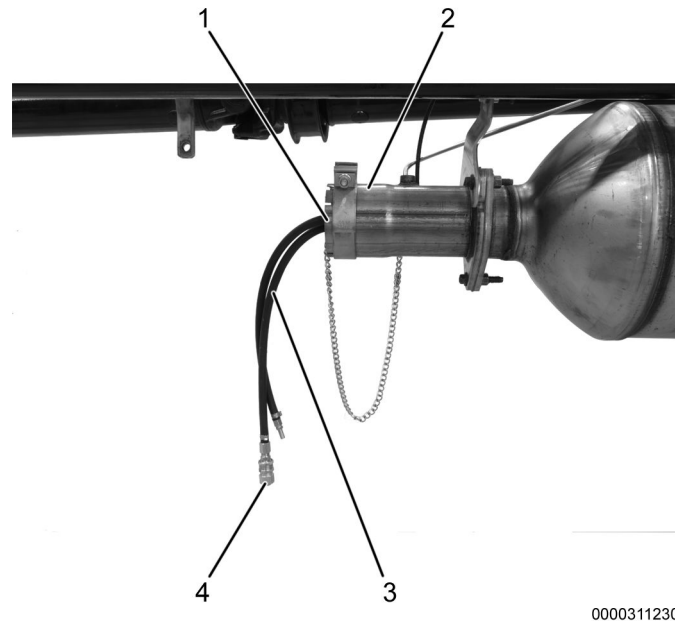

Figure 12. Powersmoke™ Adapter 2.9 In.
3. Install Powersmoke™ Adapter 2.9 in (Figure 12, Item 1) into end of tailpipe (Figure 12, Item 2) and inflate per Navistar® Leak Locator Operation Manual.
4. Install block-off coupler (Figure 12, Item 4) onto Navistar® Leak Locator supply line (Figure 12, Item 3).
1. Remove block-off coupler (Figure 12, Item 4) from Navistar® Leak Locator supply line (Figure 12, Item 3).
2. Deflate and remove Powersmoke™ Adapter 2.9 in (Figure 12, Item 1) from end of tailpipe (Figure 12, Item 2) per Navistar® Leak Locator Operation Manual.